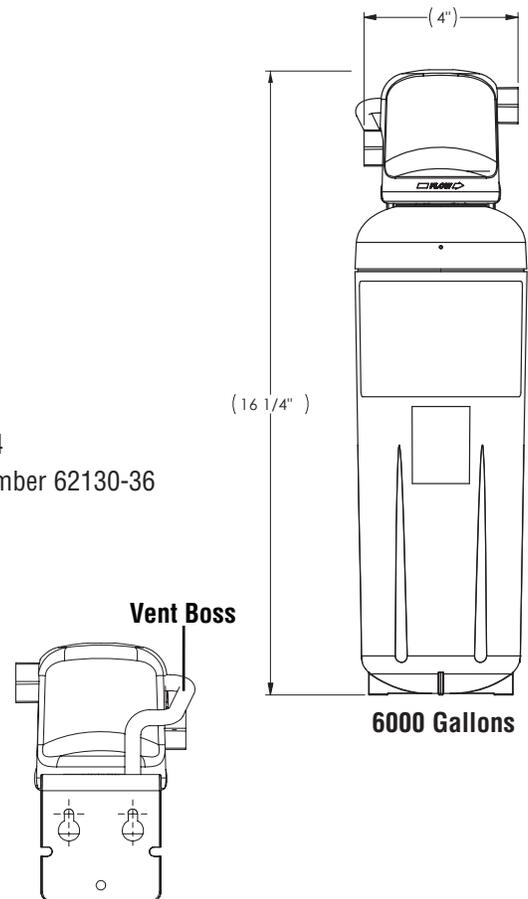

Figure 1.A
- E. Attach vinyl vent tubing (provided) to vent boss (Fig. 1.A) by pushing the tube onto the boss until it is snug.
- A. Grasp filter (see figures 1 & 2) and turn to the left (counterclockwise) until filter comes to a complete stop (water automatically turns off). Water may leak momentarily from vent tube. This is normal. Gently pull filter downward to remove (see figure 3).